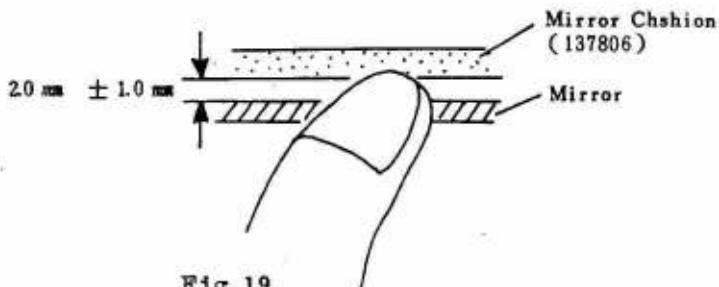

Fig 19
(7) Adjustment of Shutter releasing position.
- o Make sure Shutter is released within 20 ± 1.0 mm between Mirror surface and Mirror Chshion (137806) as shown in (Fig 19).